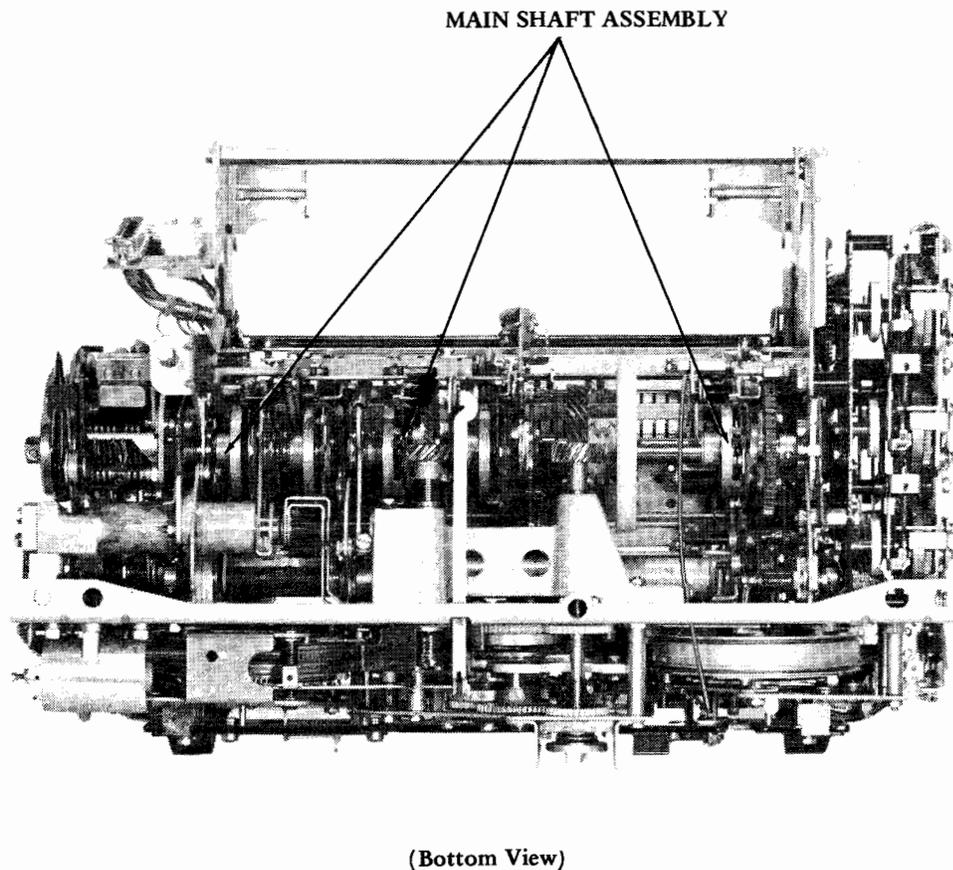

Figure 11 - Main Shaft Assembly Mounted in Typing Unit
2.30 To remove the main shaft assembly from the unit, proceed as follows (Figures 11 and 12).
2.31 To replace the main shaft assembly (Figures 11 and 12), reverse the procedure used in removal. Do not disengage the clutch drum from the shoes when feeding the clutch onto the shaft. Replace the selector cam sleeve assembly and clutch as in 2.27. Replace the vertical positioning mechanism as in 2.23. Check the following adjustments: